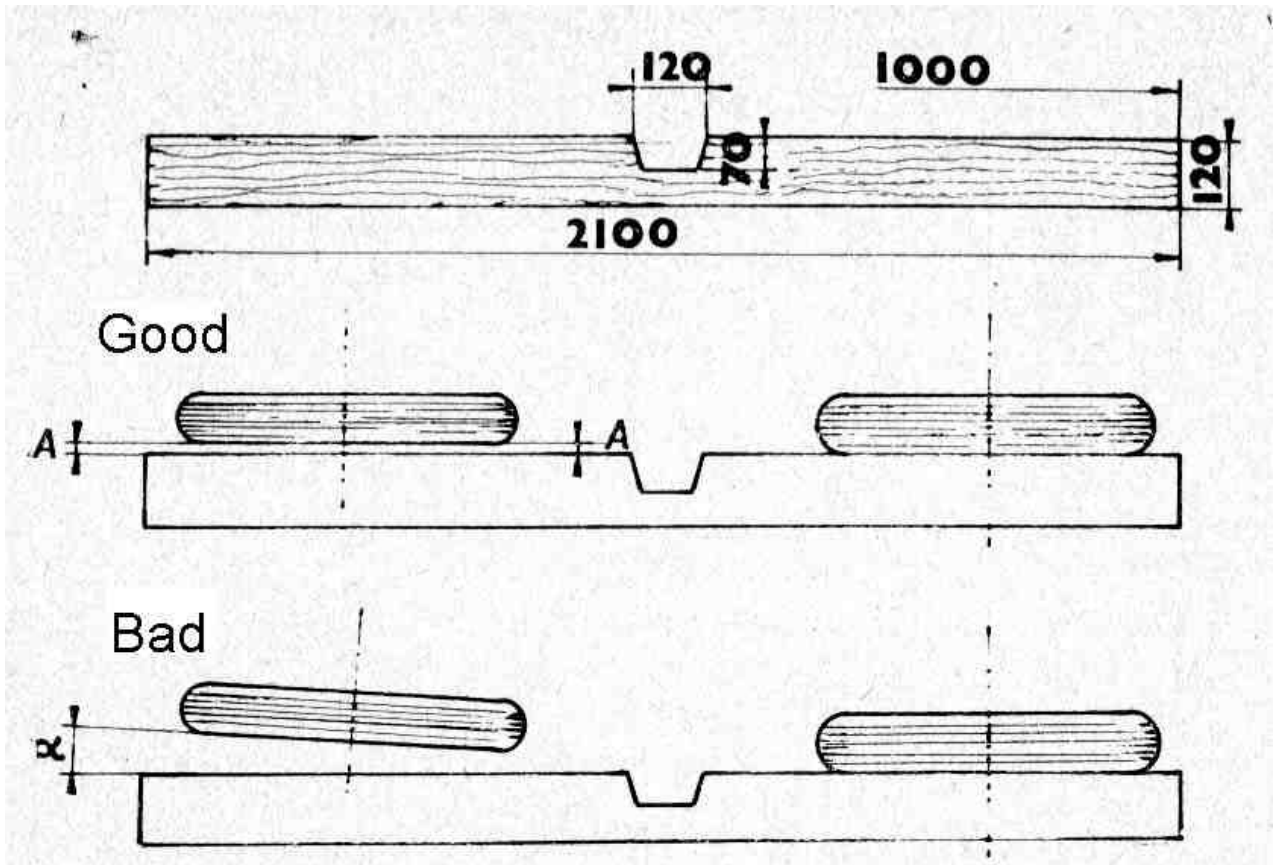

Fig. 20 – Measuring of line-up plane of wheels
- d) When adjusting the chain slack make sure that both wheels are aligned, i.e., that the rear wheel follows the track of the front wheel. For measuring the line-up plane of the wheels, use a suitably adapted lath (see Fig. 20)